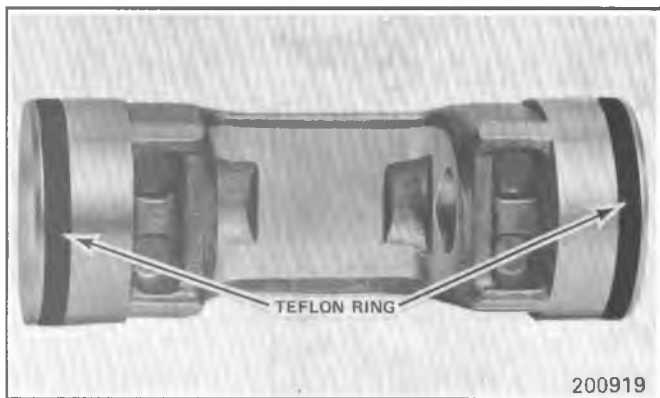

Fig. 1D-50 A-6 Teflon Piston Ring Installed in Piston Groove
c. Insert the Piston Assembly into the Front Cylinder Half (Fig. 1D-51).